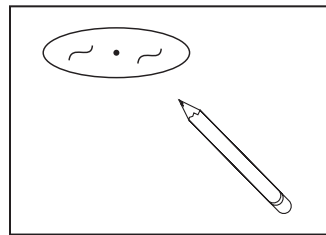

Figure 2
**Step 2.** Locate center of proposed opening on ceiling and use template to mark and accurately cut a 5-1/2" (for 5" housings) or a 6-5/8" (for 6" housings) opening (Fig. 2).